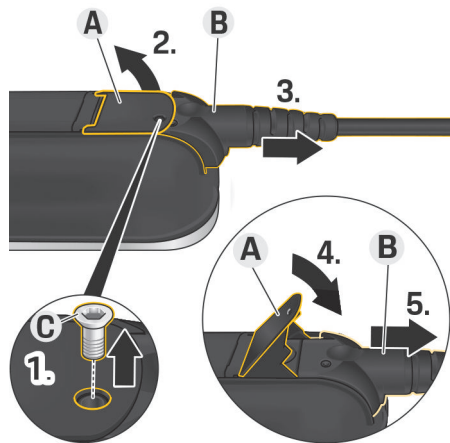

Fig. 37 Disconnecting cables
1. Remove screw **C** (Fig. 37) using a suitable tool.
2. Lift lever **A** (Fig. 37).
3. Pull out plug **B** (Fig. 37) until you first feel resistance.
4. Close lever **A** (Fig. 37).
5. Pull out plug **B** (Fig. 37) fully.